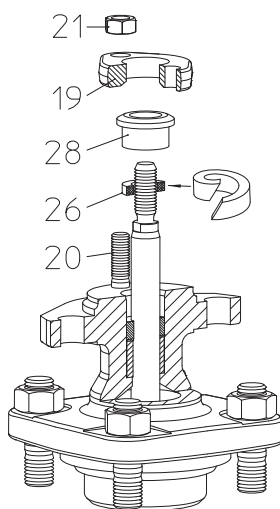
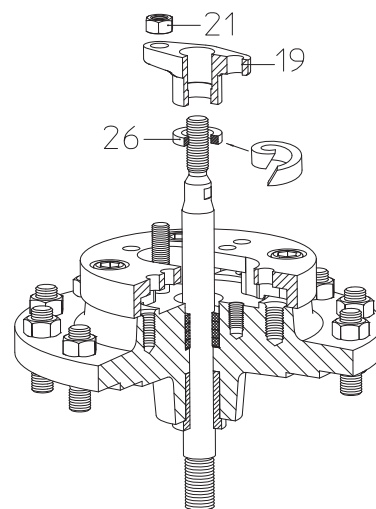

Fig. 12: Stuffing box packing DN15-150
Fig. 13: Stuffing box packing DN125v-150v
- Insert the new packing ring (pos. 26) as shown in Fig. 12 and Fig. 13.